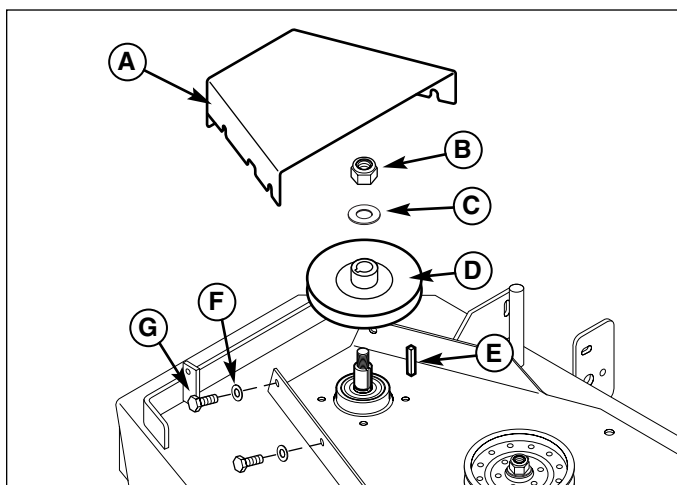

Figure 3. Belt Guard & Pulley Removal
1. Remove the right-hand belt guard (A, Figure 3) and save.
3. Remove the right-hand spindle pulley (D), 5/8" nylon lock nut (B), 5/8" washer (C) and 1/4" key (E). Use a block of wood to keep the blade from spinning while removing the 5/8" nut.